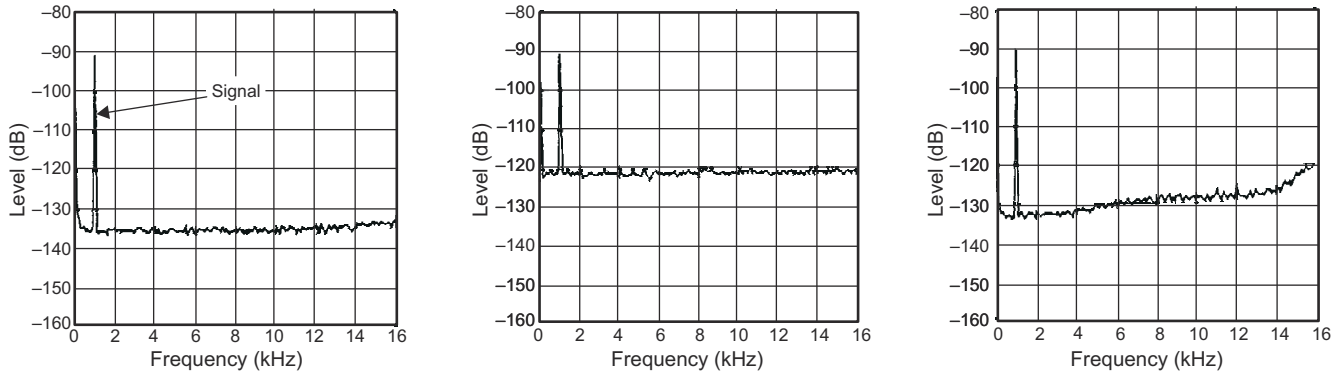

Figure 4-3. LDO Noise Aliasing
2. Consider a system in which LDO is powering an ADC or DAC. Any sampled system causes the high frequency noise to fold to lower frequencies due to aliasing. For example, if the sampling frequency is 100kHz and the noise due to LDO is at 90kHz and 110kHz, 190kHz and 210kHz, etc., then all the noise will fold back to 10kHz which is the beat frequency. This will occur for any frequency of the output noise so that all of the LDO noise folds back to within the bandwidth of the sampling system. This is same as integrating all the noise from DC to bandwidth of the system and computing the total noise. This way, the performance of ADC/DAC suffers if the LDO total (integrated) noise is high. Figure 4-3 below shows how LDO noise aliasing takes place. First graph is for a system powered by ideal LDO, second is for a system powered by LDO with thermal noise that increases noise floor and third is for a system powered by LDO with noise at high frequency that aliases to lower frequency.